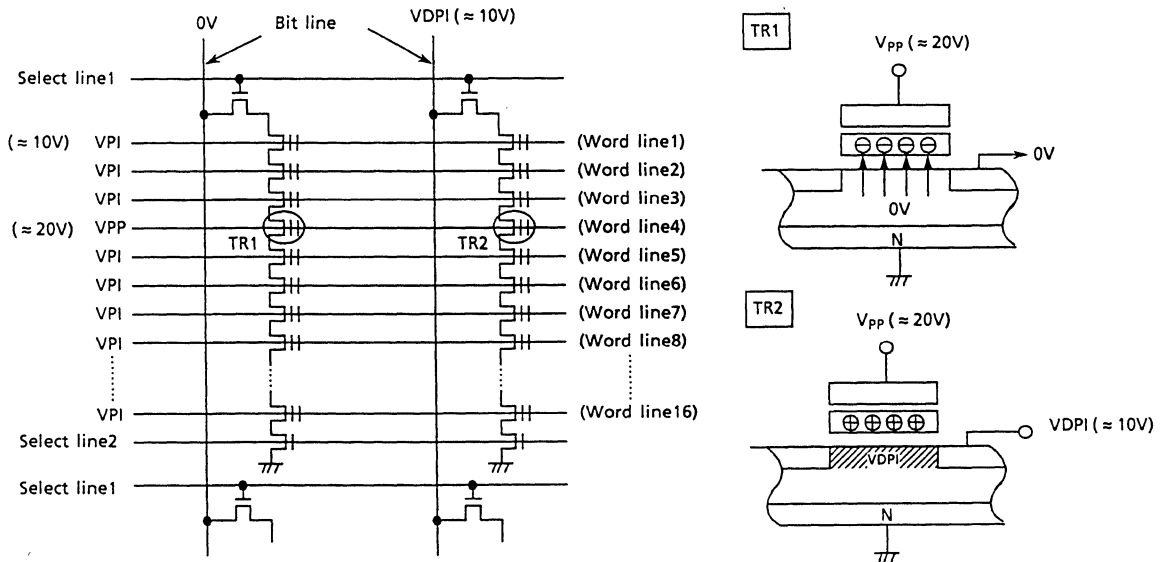

Figure 17. TC5832FT Program Device Physics
Figure 17 shows the NAND memory cell and details of the programming mechanism. The program operation is used to write "0" data into an erased memory cell ("1" data cell) using a tunneling mechanism. An example showing the operations necessary to program "0" data in TR1 and "1" data in TR2 follows:
- (1) The select lines are activated so that the transistor array is connected to the bit line and disconnected from the ground line.
- (2) V_{PP} ($\approx 20V$) is applied to the selected word line and an inhibit voltage of V_{PI} ($\approx 10V$) is applied to the unselected word lines.
- (3) The bit line tied to cell transistor TR1 is biased to $0V$ and the bit line tied to TR2 is biased to the inhibit voltage of V_{DPI} ($\approx 10V$).
- (4) V_{PP} is applied between the control gate and the channel in TR1, as shown in Figure 17, which causes electrons to be injected from the channel to the floating gate by a tunneling mechanism.
- (5) The injected electrons are captured in the floating gate (which is surrounded by an oxide layer) and will remain, even after power is cut off, until they are removed by an erase operation.
- (6) Although 20 volts is applied to the control gate of TR2, the voltage difference between the control gate and the channel is only $10V$ because the voltage of the channel is $10V$. Therefore, tunneling does not take place. (i.e. electrons are not injected into the floating gate.)
- (7) Tunneling does not take place in the unselected pages because of the $10V$ (V_{PI}) being applied to the unselected word lines which again makes the voltage difference between control gate and channel only 10 volts. Thus, the floating gate of the "0" cell is charged to "minus" and that of the "1" cell is charged to "plus".